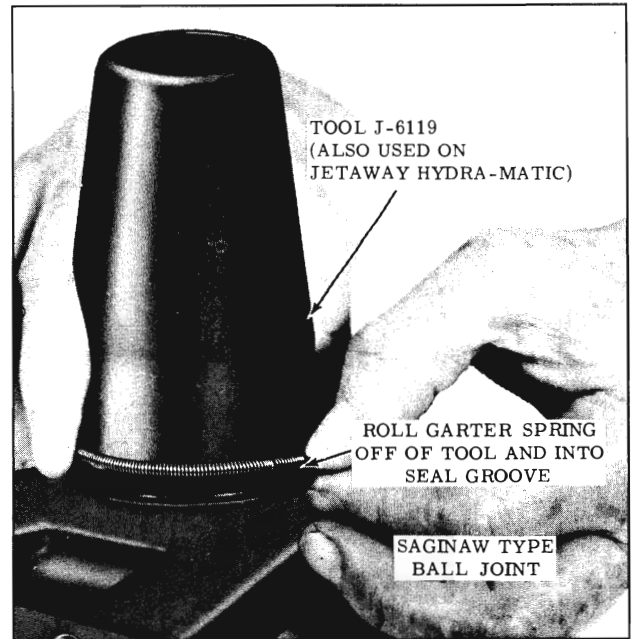

Fig. 5-14 Installing Saginaw Type Seal
- For Saginaw type, stretch garter spring around Tool J-6119. Do not stretch garter spring any more than necessary when installing on tool. Place seal on ball joint and install garter spring as shown in Fig. 5-14.